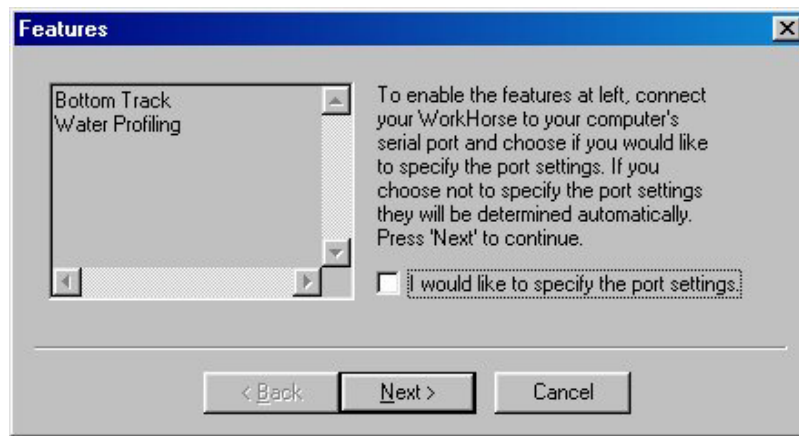

Figure 6. Installing Feature Upgrades
- d. In the **Open** box, type A:xxx.exe, where *xxx* is the ADCP's CPU serial number. The installation program will start (see Figure 6, page 22). The program is encoded with the ADCP's serial number and the requested feature upgrade.